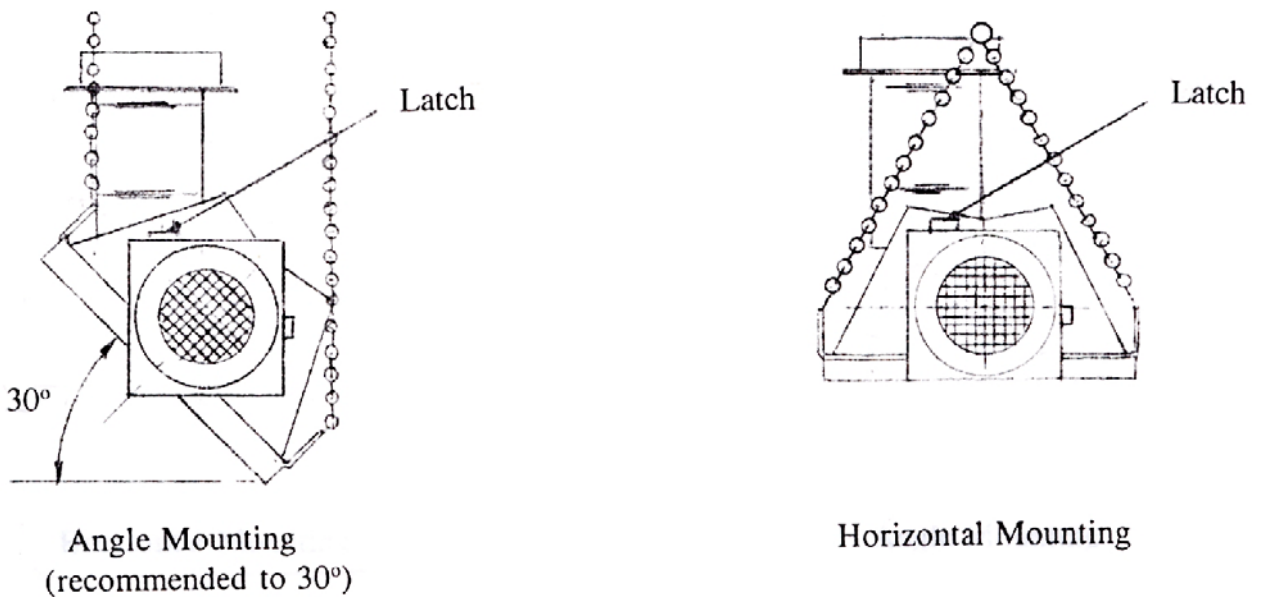

Fig. 5
- 4.1.3 Place a Torcrite Coupling over one end of the Radiant Tube ensuring that it engages fully up to the stop. Assemble a Control Box to the Radiant Tube ensuring that it engages fully into the Torcrite Coupling (up to the stop) and is positioned vertically with the door latch uppermost (see Fig. 5). Tighten the screws of the Torcrite Coupling to secure the Control Box to the Radiant Tube, taking care to support the Control Box in line with the axis of the tube.